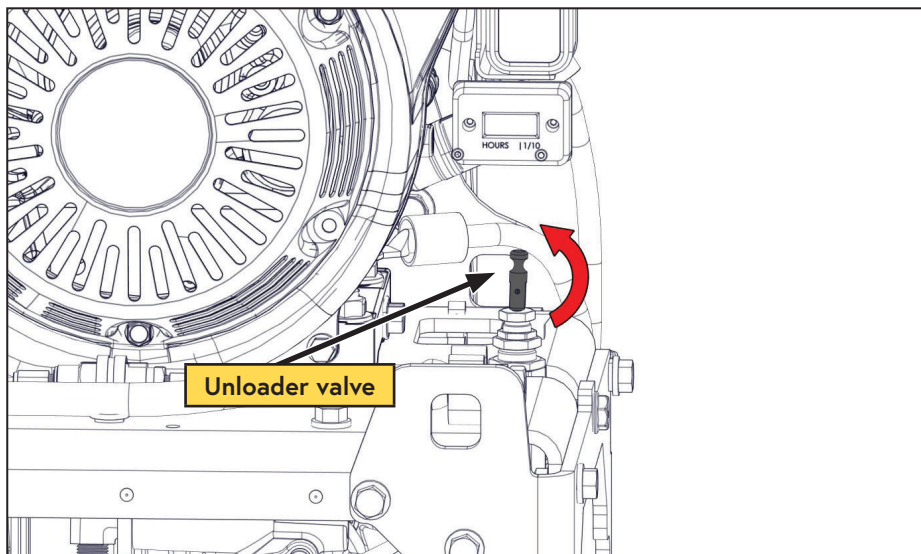

Figure 17 — Unloader valve
5) Actuate the unloader valve by pulling out the handle (Figure 17).